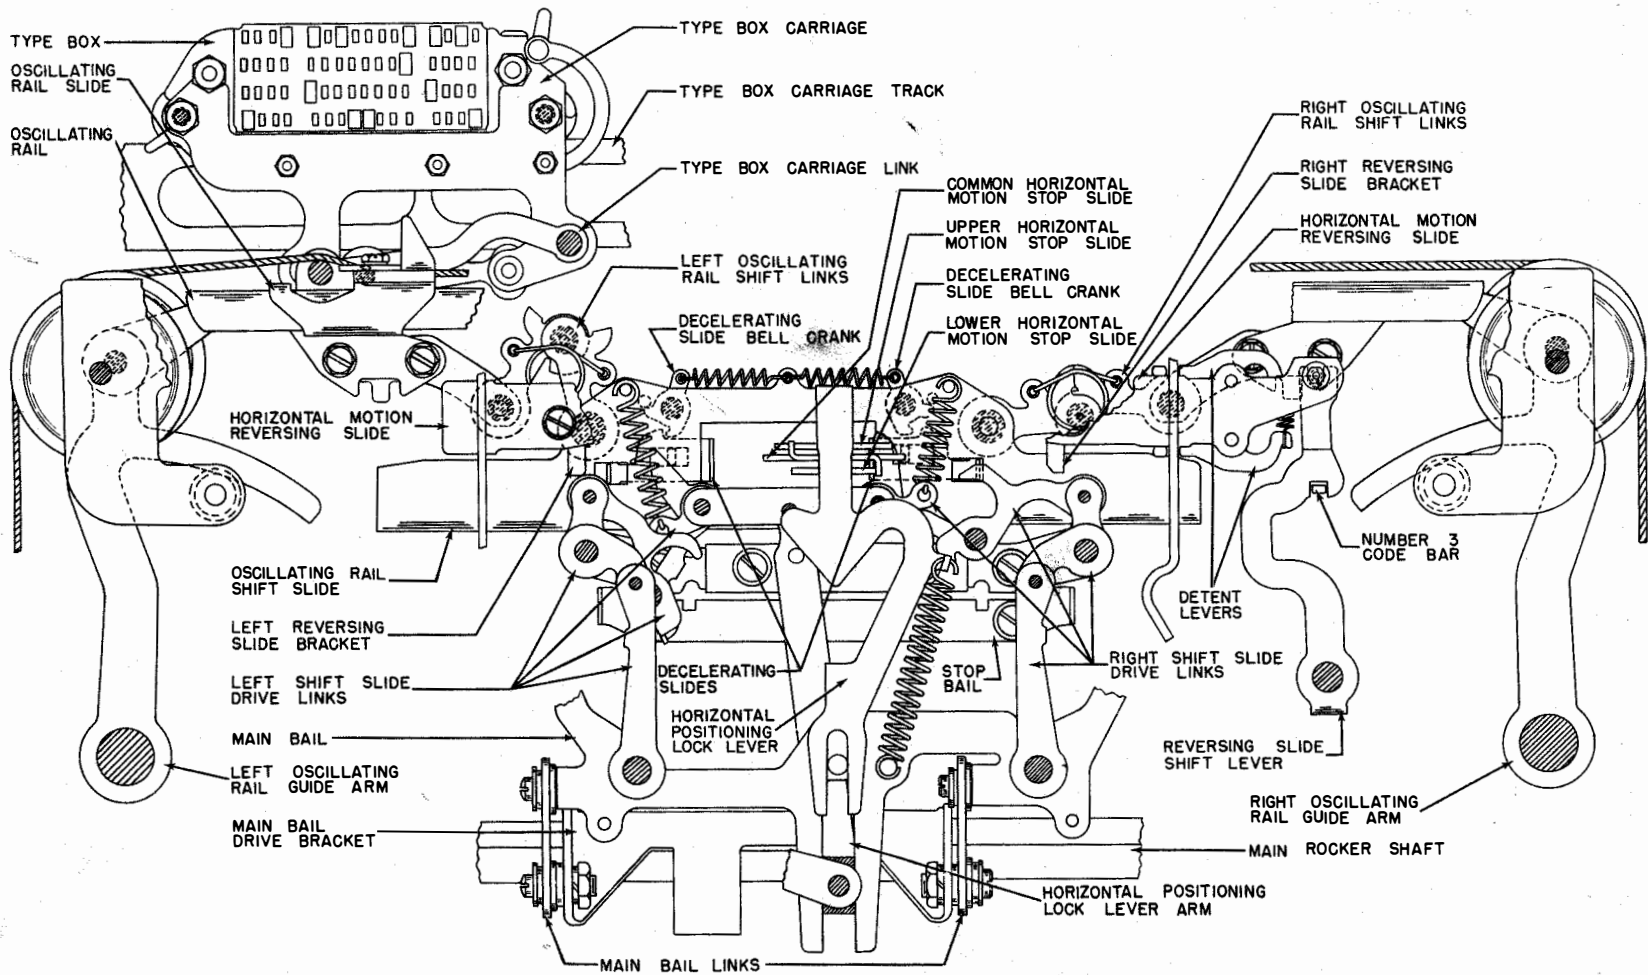
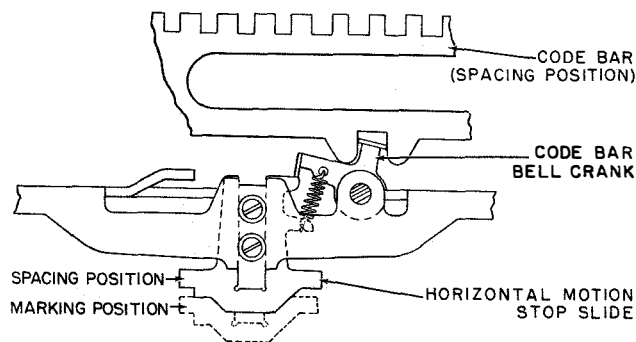

Figure 2-47. Front Plate Horizontal Positioning Mechanism
Figure 2-48. Stop Slide Positioning
3. A bracket attached to the main rocker shaft applies vertical motion to the main bail by means of two main bail links (figure 2-47). Attached to each end of the oscillating rail shift slide, are pivoted "buckling" type drive links which extend downward to each end of the main bail. As the main bail moves downward, the left shift slide drive links, if not buckled, will try to shift the oscillating rail shift slide toward the right while the right shift slide drive links, if not buckled, will try to shift the oscillating rail shift slide toward the left. When the number 3 code bar is shifted toward the left (marking), the horizontal motion reversing slide is shifted toward the left by the reversing slide shift lever, and is held there by detent levers. A bracket near the right end of the reversing slide will then make contact with the right shift slide drive links and cause them to buckle. As the main bail is driven downward, the unbuckled left shift slide drive links will start to shift the oscillating rail shift slide toward the right. This positions the type box so that the character to be printed will be found in the left half of the LTRS or FIGS side. In a similar manner, when the number 3 code bar is shifted toward the right (spacing) the horizontal motion reversing slide is also shifted toward the right by the shift lever and is held there by the detent levers. A bracket near the left end of the horizontal motion reversing slide then makes contact with the left shift slide drive links and causes them to buckle. As the main bail is driven downward, the unbuckled right shift slide drive links will start to shift the oscillating rail shift slide toward the left. This positions the type box so that the character to be printed will be found in the right half of the LTRS or FIGS side.
4. After it has been thus determined in which group of four vertical rows the character to be printed is located, the number 4 and number 5 code bars operate three horizontal motion stop slides to determine the row in that group in which the character is to be found (figure 2-47). A wedge shaped horizontal positioning lock lever which is pulled downward by the main bail through a yield spring, bears against the horizontal positioning lock lever arm. This arm drives the oscillating rail shift slide in the direction in which it was started (by the number 3 code bar selection) until one of the two decelerating slides which are mounted on the oscillating rail shift slide strikes an unselected
horizontal motion stop slide. A camming surface on the unbuckled shift slide drive links makes contact with and rolls down the face of the decelerating slide and causes the drive links to buckle. The oscillating rail shift slide finally comes to rest when it strikes the blocked decelerating slide. This in turn ends the downward excursion of the lock lever, and the yield spring extends until the main bail reaches the lowest point of its oscillation. As the main bail returns upward, it centers the oscillating rail shift slide. It is during this time that the horizontal motion stop slides are positioned for the selection of the next character. The number 4 and number 5 code bars each operate a code bar bell crank. Each, in turn, moves a horizontal motion stop slide toward the front (marking), or toward the rear (spacing) (figure 2-48). A third (common) stop slide (spring tensioned toward the rear) is located between the upper and lower stop slides and has projections which pass across the front edges of these slides (figure 2-47). Each stop slide is of a different length. The common stop slide which is the longest stop has an additional step on its shank so that it serves as the shortest stop when all the slides are moved forward. The upper slide (operated from the number 4 code bar) is the second longest stop, and the lower slide (operated from the number 5 code bar) is the third longest stop.